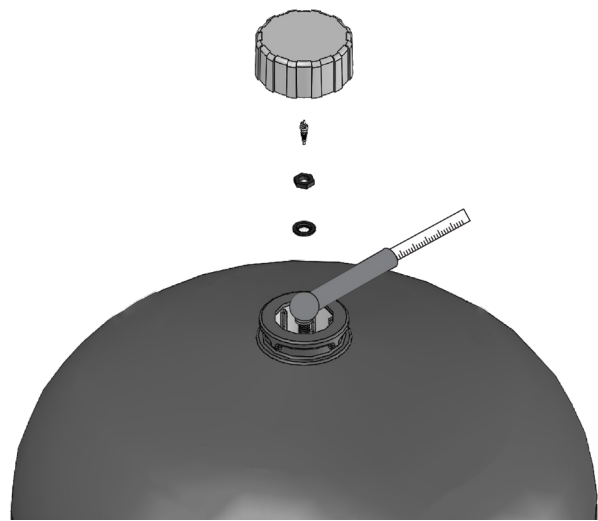

Figure 3: Use A Tire Gauge To Check Precharge In Air Cell
2. Remove pole piece cap and check air pressure at the air valve in top of tank with a standard tire gauge. See Figure 3. Air pressure should be 4 psig below pump pressure switch cut-in setting (if switch closes at 30 psig, pressure in tank should be at 26 psig).